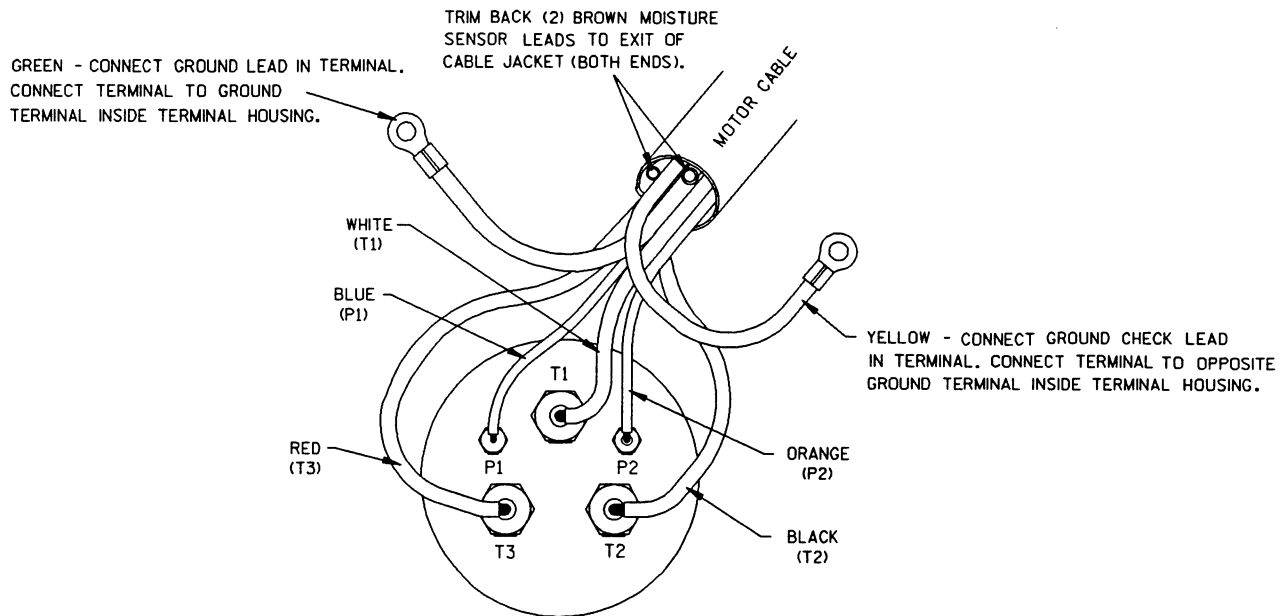

Figure 5. Terminal Housing Wiring Connections
If the terminal ends were removed for replacement, crimp a new terminal on each power cable lead. Slide a length of heat-shrink tubing (12 and 29) up over each of the power cable leads. Insert the standard power cable leads into the large terminal collars (26), and secure them with the setscrews (27). Insert the control leads into the small terminal collars (14) and secure them with the setscrews (13). The tubing must cover the crimped part of the terminals and extend up the leads far enough to ensure a good seal. See Figure 5 for wiring connections.